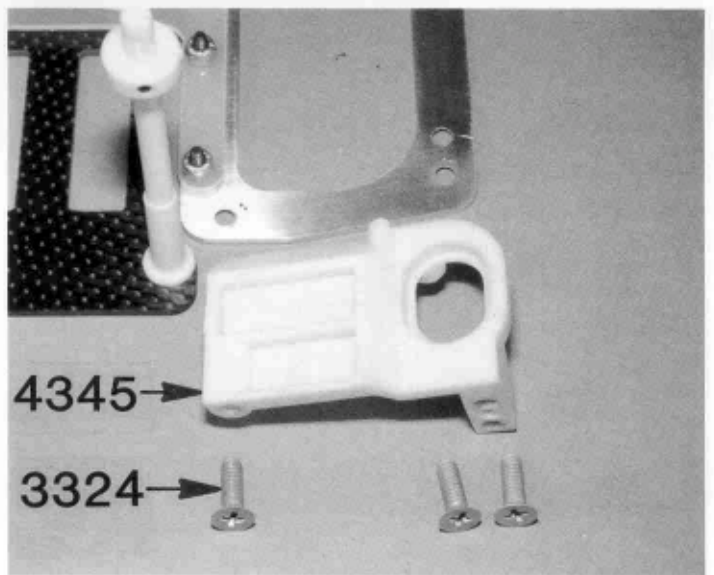

Fig. 28
□ **Figs. 28 & 29**— Mount the #4345 left hand plastic bulkhead to the lower brace using the three #3324 aluminum screws. Do not overtighten.